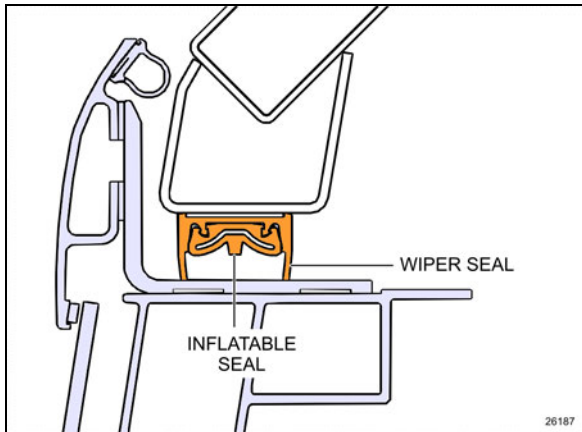

FIGURE 31: INFLATABLE SEAL ASSEMBLY
*This procedure is to install the adhesive backed wiper seal (Figure 31) on the structure.*
*This procedure is to install the inflatable seal (Figure 31) on the wiper seal.*